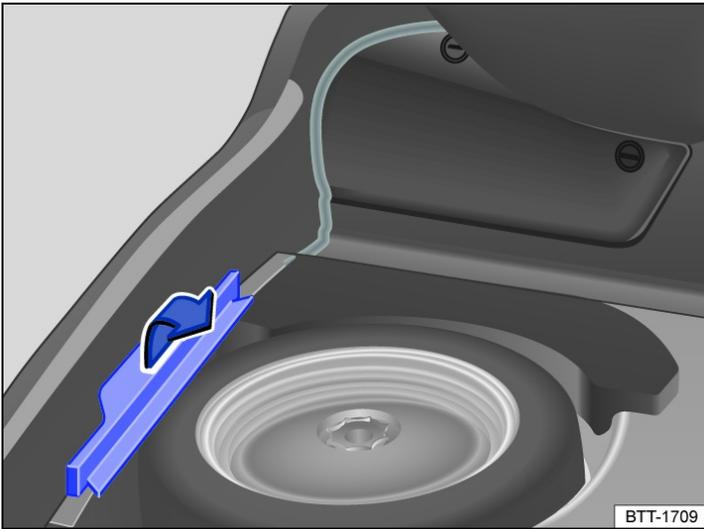

Fig. 1 In the luggage compartment: cover over the spare wheel.
- To remove the cover → *Fig. 1*, first pull it up and then slide it forwards.